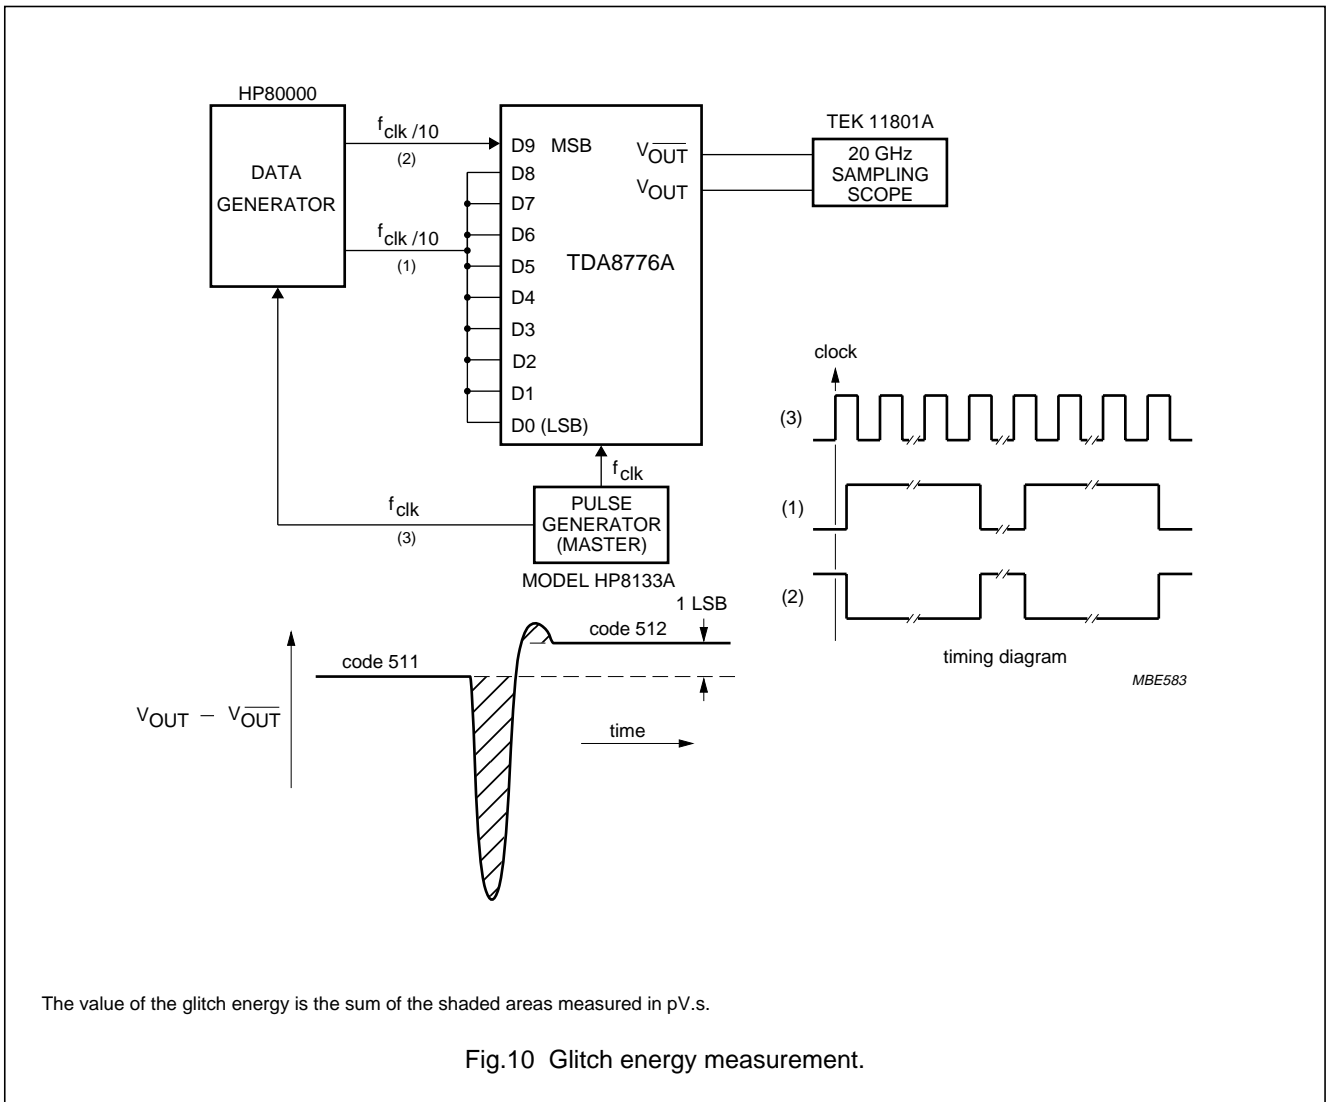

Fig.10 Glitch energy measurement.
Output transients; glitches ($f_{\text{clk}} = 1000 \text{ MHz}$); note 7; see Fig.10
- The definition of glitch energy and the measurement set-up are shown in Fig.10. The glitch energy is measured at the input transition between code 511 to 512.